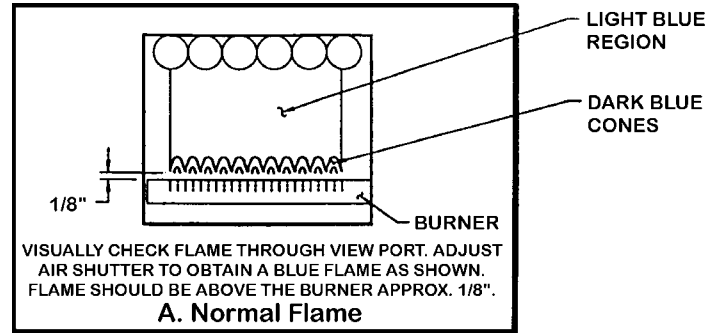

Figure 5. Burner Flame Characteristics
- Cause no excessive lifting of flame from burner ports (see fig. 5).